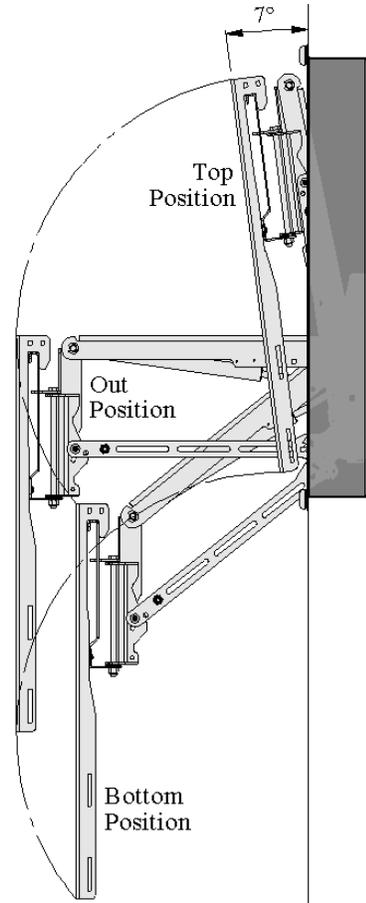

**Figure 1, Mount Overall Size, Television Mounting Hole Pattern Range, Wall Mounting Hole Pattern Range**
- **Note for smaller televisions;** the mount may be wider or taller than the television. If this is the case then the mount may be visible in the top position. See Figure 1
- Allowable television mounting pattern: 6.7" (170mm) to 27.2" (692mm) wide, up to 22.8" (579mm) high. Works with all VESA patterns in that range, See Figure 1
- Product Dimensions: 29.0 x 27.75 x 5.1 inches. See Figure 1